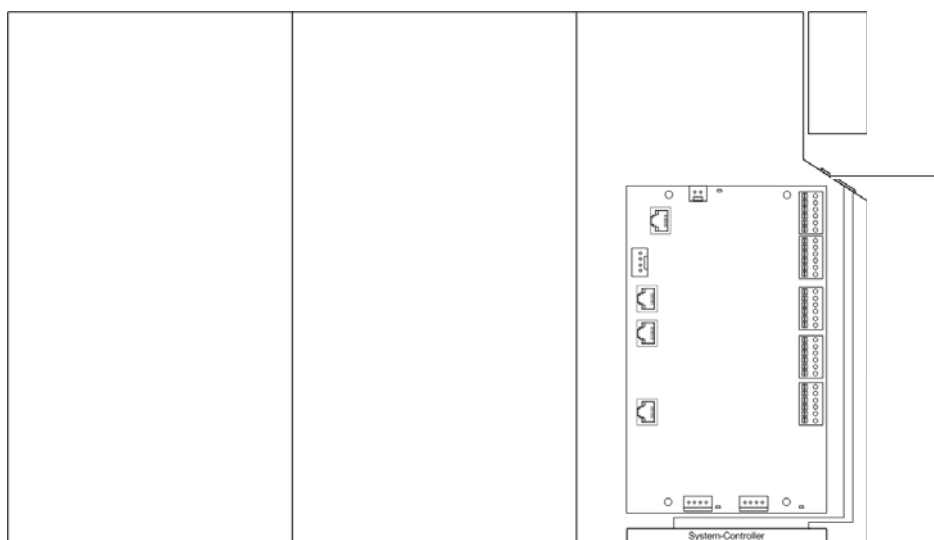

Figure 11.19 Mounting frame grommet (top view)
2. Route the cables through the appropriate grommets, refer to Figure 11.19.